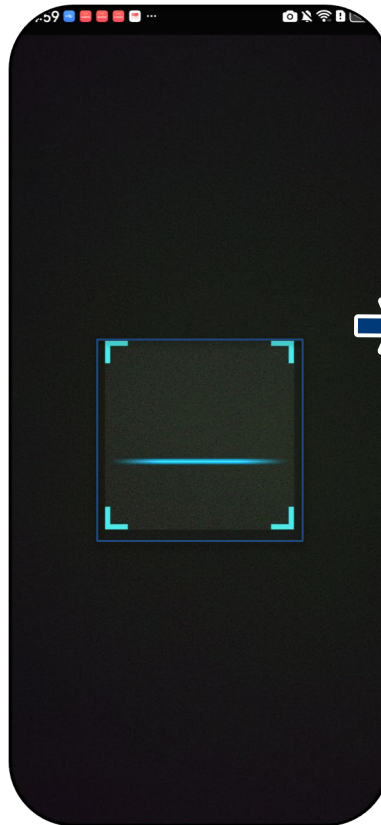

Fig. 68. Scan QR code
3. Scan the QR code on the Communication Device. Max. distance from the scan frame shown in the scan window. See Fig. 68